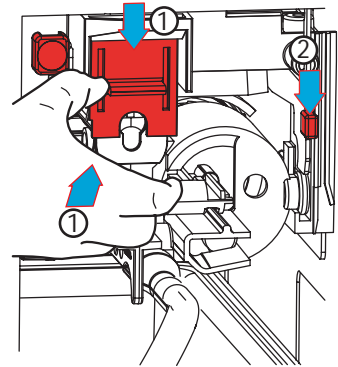

Figure 4-15
8. Carefully replace the brewer group. Push the locking lever (2) down. Push the lever (1) on the right down. (see figure 4-15).